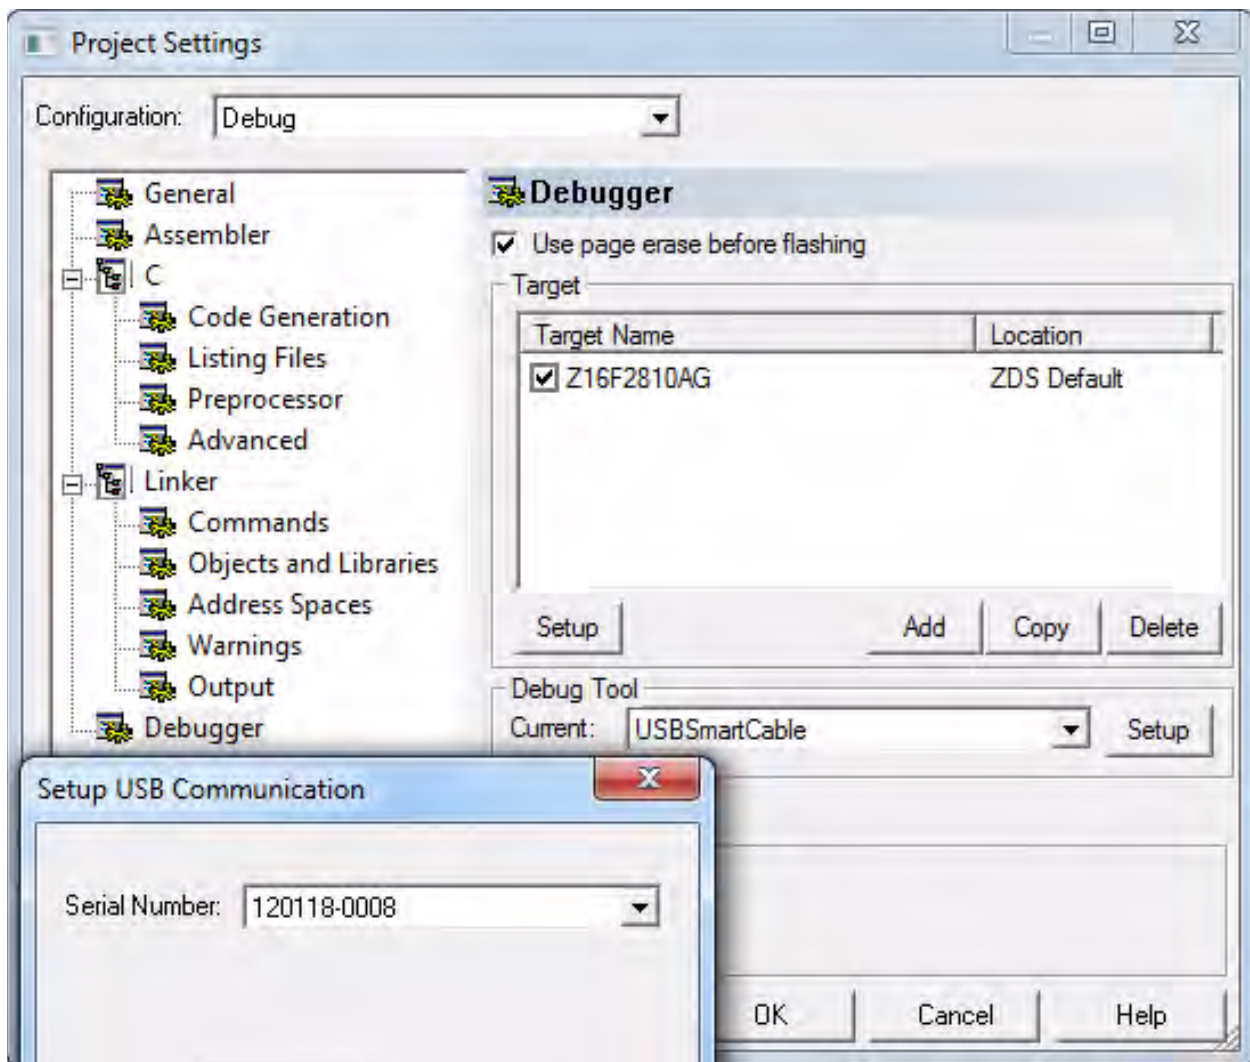

Figure 14. USB Smart Cable Serial Number Register
7. In the Debug Tool pane at the bottom of the Project Settings dialog, select **USBSmartCable** from the **Current:** drop-down menu (if it is not already selected); see Figure 14.
8. Click the **Setup** button in this Debug Tool pane to prompt ZDSII to recognize the serial number of your USB Smart Cable (seen in the Setup USB Communication dialog in Figure 14).